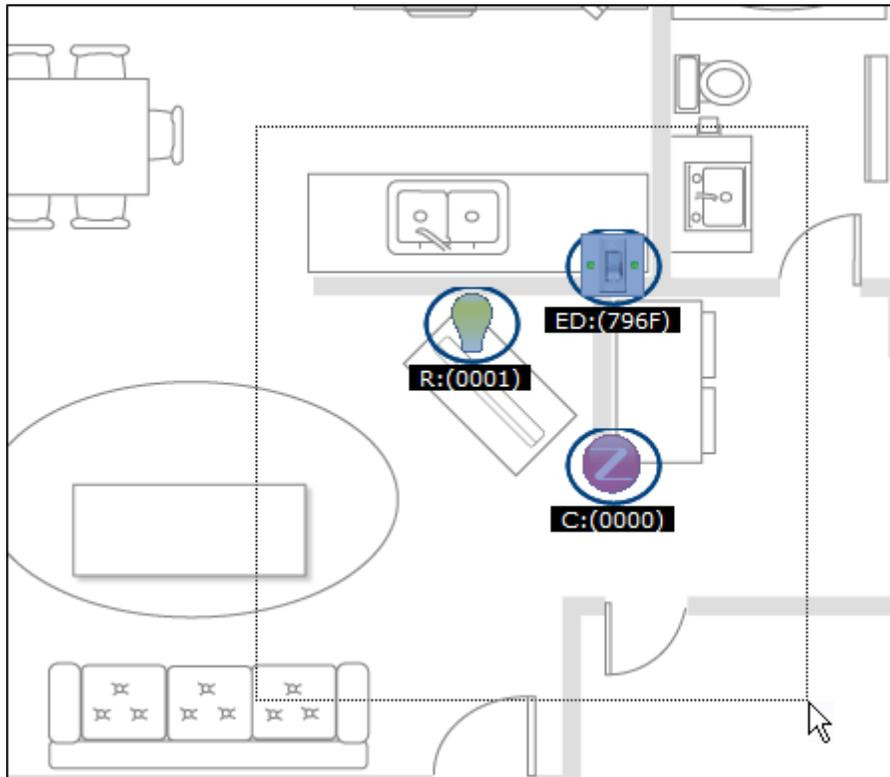

Figure 4-16. Selecting Devices to Add to a Group
4. As shown in Figure 4-16, drag the mouse to select the On/Off Light, On/Off Switch, and Combined interface endpoint icons on the window. They will be marked with a circle when they are selected. Users can also select them by holding the Ctrl key and clicking on each endpoint icon.